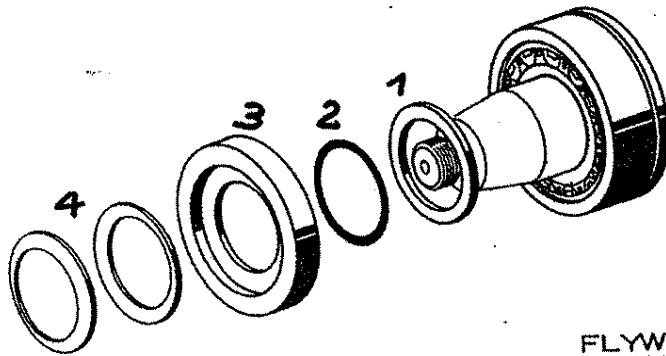

Fig. 26
Fit main bearing thrust ring(1), rubber O-ring (2), angle ring (3), cup springs (4) onto crankshaft pin. (Fig. 26).